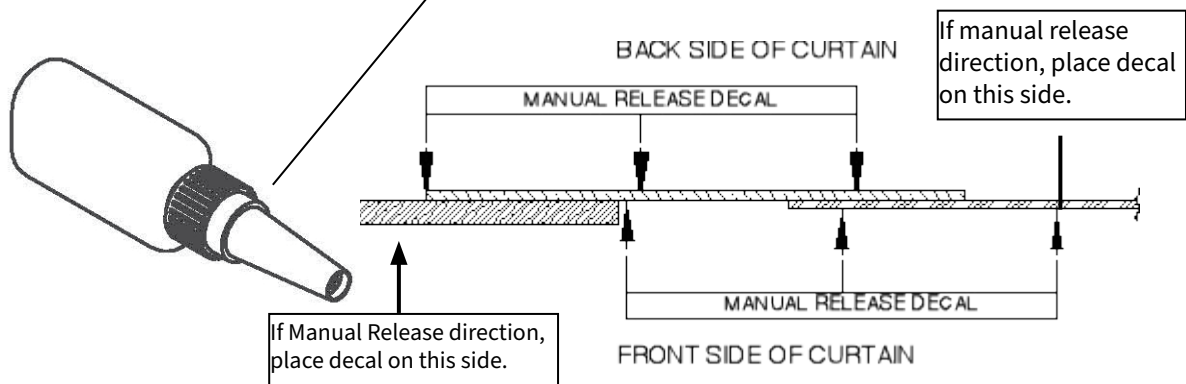

Figure 13: Curtain Detail Showing Lubrication & Location Of Manual Release Decals
3. Apply a small amount of lubricant to profile on left and right sides of door curtain. Lubricate around circular profile of curtain edges. Wipe off excess so that only a light film is left (Figure. 13).
- D. Apply decal at edge of curtain per detail in Figure 13 below, depending on manual release direction.